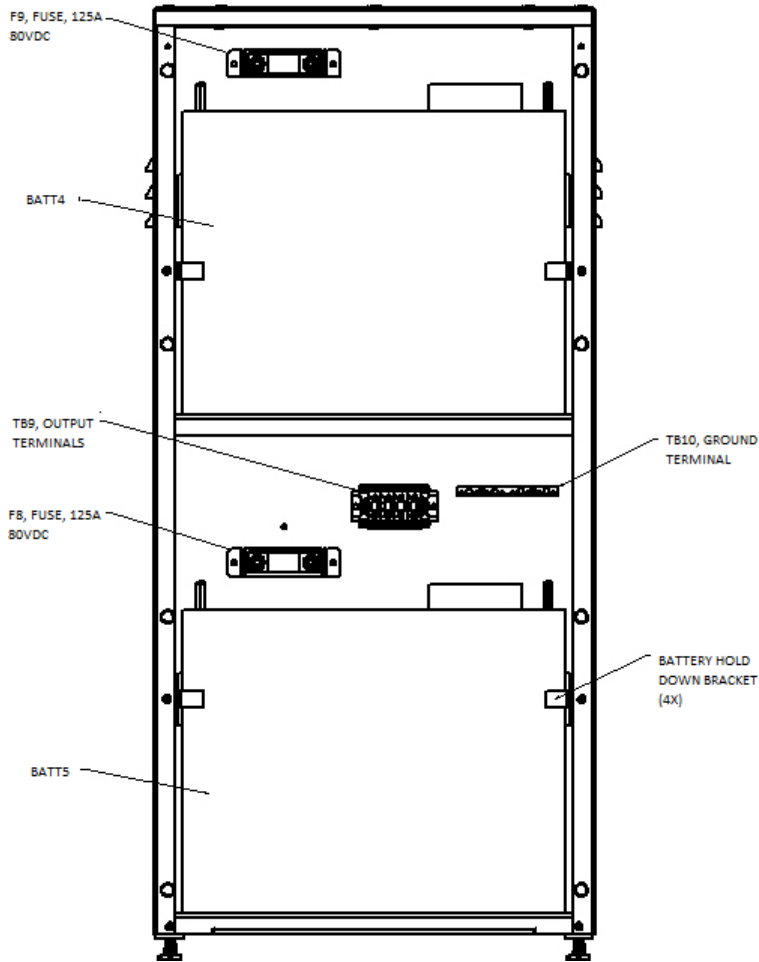

Figure 14
The battery cabinet, NV24, comes with 4AWG wire. Connect the wire to the output terminals on the battery cabinet. Torque to 32 in-lb. (3,7Nm). See figure 14.
- Rotate battery hold down brackets 90 degrees so that the bracket is against the face of the battery. Tighten bracket in place (see figure 14). Both NV24 batteries have these brackets on both sides of the batteries.
- Connect the black battery wire to each battery negative terminal using the terminal hardware provided with each battery. Each battery has two (2) terminals marked as ‘-’. Either terminal is acceptable to install the black battery wire. Torque the battery terminal to 160 in-lbs. (18Nm).
- Connect the red battery wire to each battery positive terminal using the terminal hardware provided with each battery. Each battery has two (2) terminals marked as ‘+’. Either terminal is acceptable to install the red battery wire. Torque the battery terminal to 160 in-lbs. (18Nm).
- Connect the CAT5 ethernet cable to the battery RS485 port. There are two (2) RS485 ports. The upper battery has one (1) CAT5 cable to install. Either RS485 port on the battery is acceptable. The lower batteries have two (2) CAT5 cables to install in each of the RS485 ports.